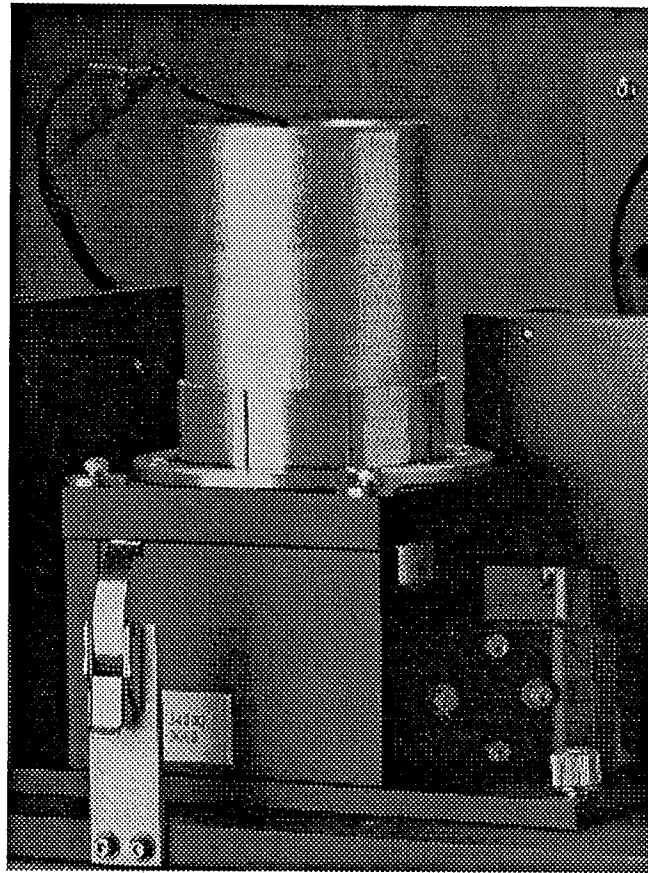

Figure 10. Dummy in place of detector Dewar
- b) Install the dummy can with the light source assembly in place of the Dewar, as in figure 10.